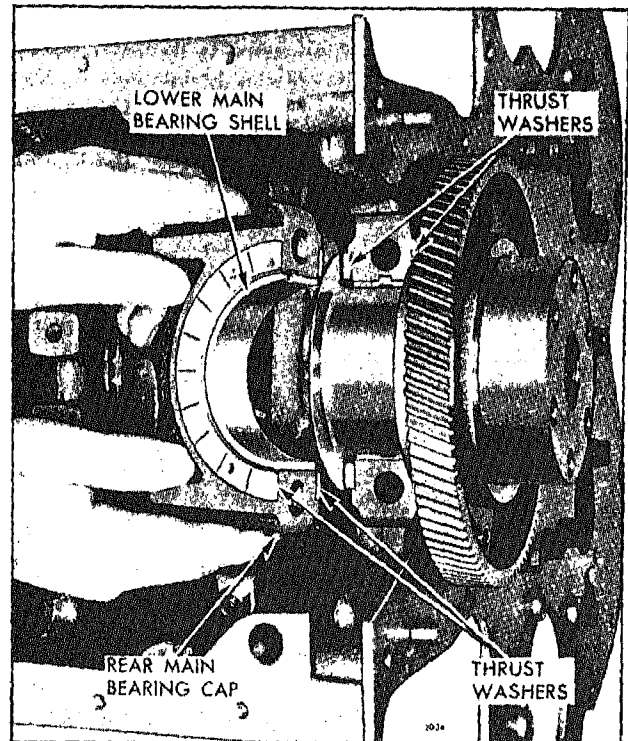

Fig. 9 - Crankshaft Thrust Washers in Place
3. Assemble the crankshaft thrust washers (Fig. 9) before installing the rear main bearing cap. Clean both halves of each thrust washer carefully and remove any burrs from the washer seats -- the slightest burr or particle of dirt may decrease the clearance between the washers and the crankshaft beyond the specified limit. Slide the upper halves of the thrust washers into place. Then assemble the lower halves over the dowel pins in the bearing cap.